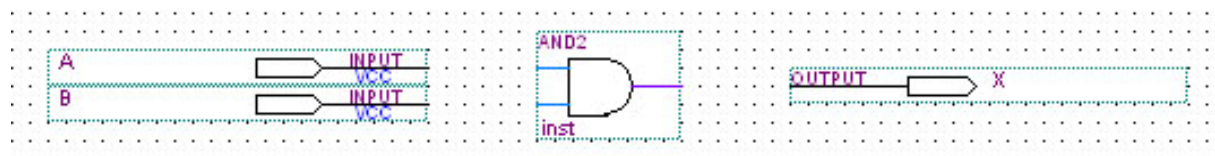

Figure 6-11
18. To change the name “PIN\_NAME” of the input (or output) connector, double-click on the current name. When the name appears in reverse text (highlighted), type the new name. Change the current names of the input connectors to A and B and change the output connector’s name to X. Your circuit should now look like the circuit in Figure 6-11.